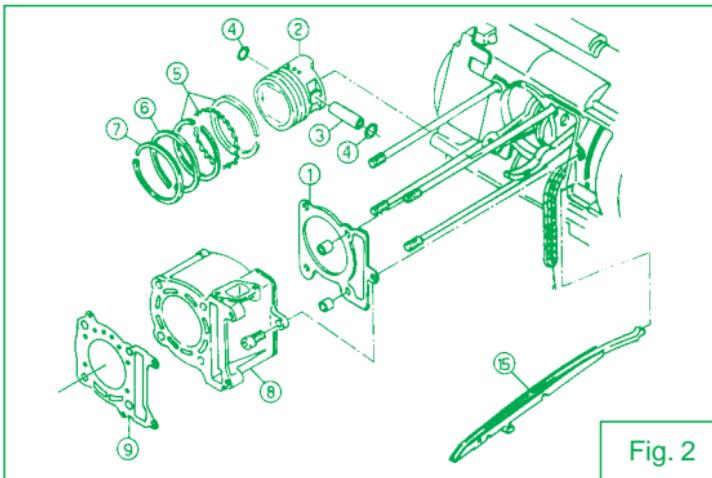
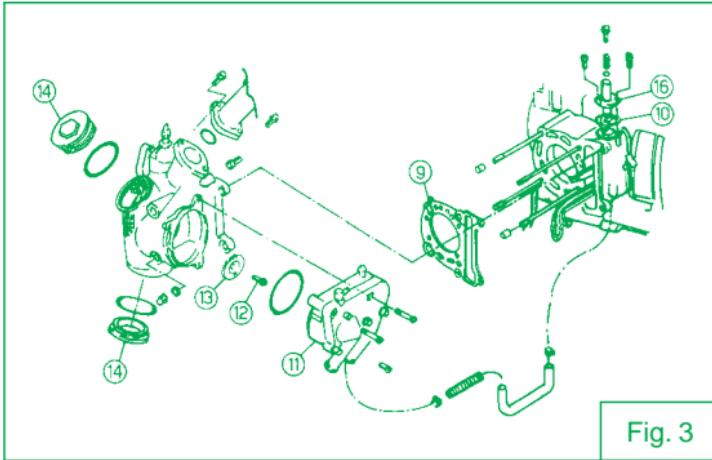

Fig. 2
Fig. 3
- 7) Remove the caps (Fig. 3 - n. 14) and make sure there is some clearance between the rocker arm and the valves to confirmation that the piston is at the upper dead point.
- 8) Remove the chain stretcher (Fig. 3 - n. 16).
- 9) Remove the screw (Fig. 3 - n. 12) and extract the toothed wheel (Fig. 3 - n. 13).
- 11) Extract the chain shifter (Fig. 2 - n. 15).
- 7) Fit respectively the chain shifter (Fig. 2 - n. 15), the head gasket (Fig. 3 - n. 9) and the dowels.
- 9) position the toothed wheel (Fig. 3 - n. 13) onto the chain then fit it into its cam shaft seat.
- 10) Fit the chain stretcher (Fig.3 - n. 16) by using the new gasket provided.
- 11) If you are sure you have properly followed these notes, tighten the screw (Fig. 3 - n. 12) by using a force between 25-35 Nm.
- 12) Now it is possible to fit the water pump (Fig. 3 - n. 11). Be careful to insert the tooth into the slot of the screw which secures the toothed wheel (Fig. 3 - n. 12) and the carburetor.
Use the thickness gauge to check the clearance of the valve, then tighten the caps (Fig. 3 n.14). Assemble the engine onto the frame.